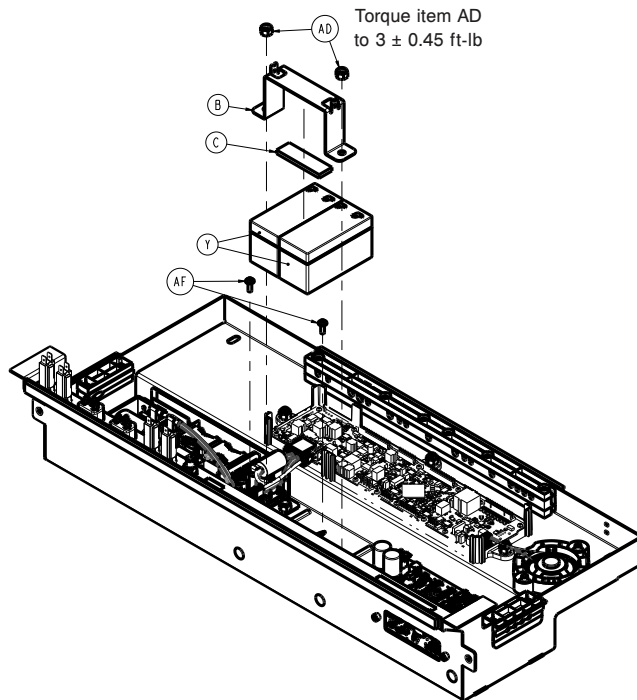

Figure 27 – Replacing the battery
10. Using a ratchet and a 7/16" socket, remove the two nuts (AD) that secure the battery strap (B) to the electronics box assembly (Figure 27). Save the nuts.
8. Using a ratchet and a 7/16" socket, remove the two nuts (AD) that secure the battery strap (B) to the electronics box assembly (Figure 27). Save the nuts.